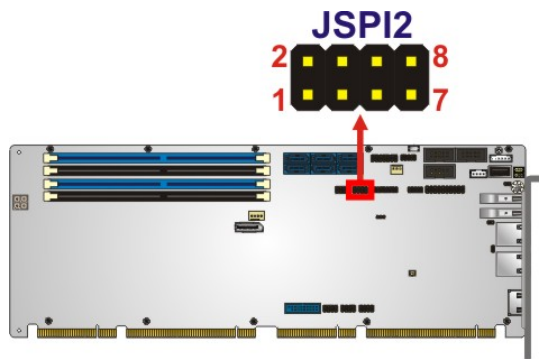

Figure 3-23: SPI EC Flash Connector Location
- CN Location:** See **Figure 3-23**